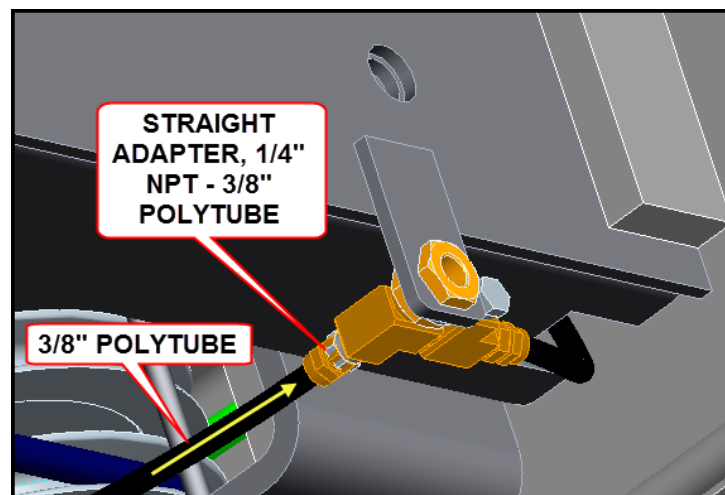

Figure 22. JB Air Connections
4. Connect the 3/8" polytube from the hose guard to the 3/8" fitting at the front of the left deck assembly (jacking beam air bracket). Before this can be done, remove the plug and replace with 1/4" NPT - 3/8" polytube straight adapter located in polybag "C" of hardware kit. **See Figure 22.**